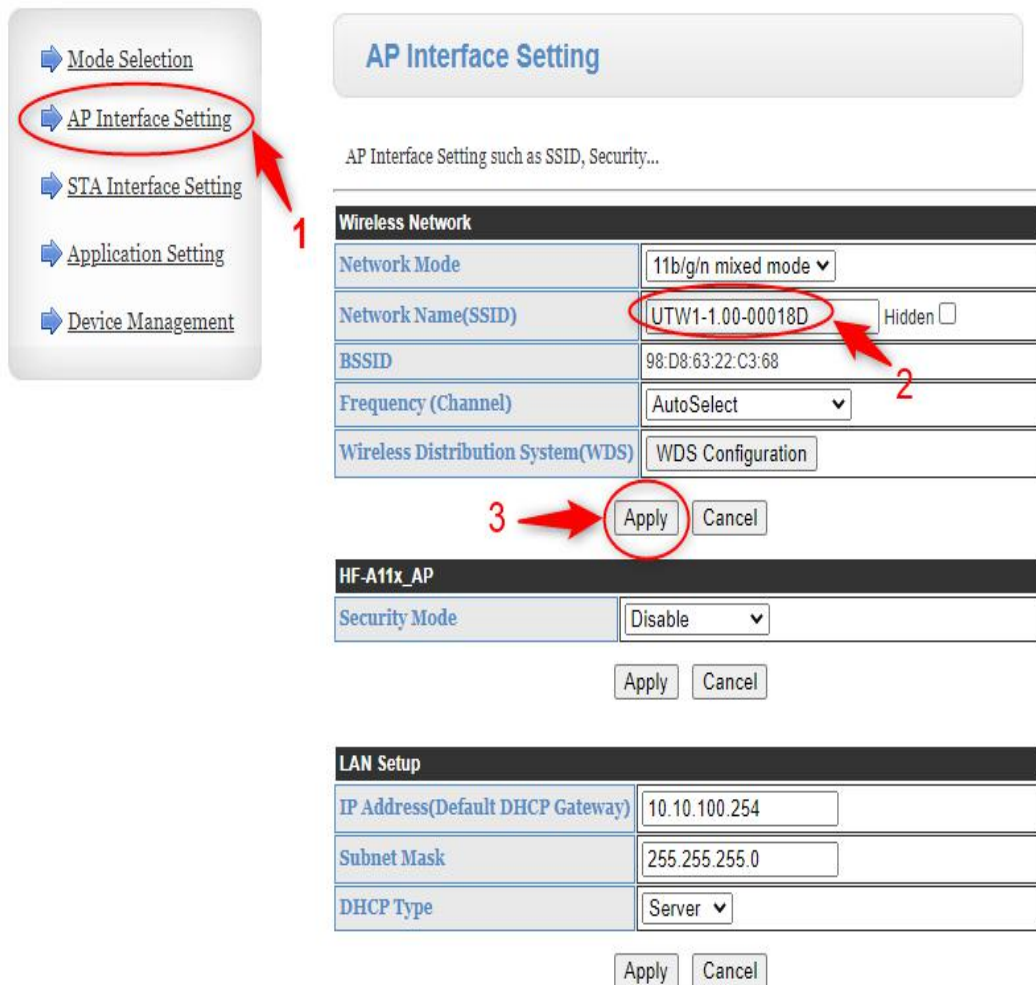

Figure 35
b. Wireless access point settings (Figure 35 below)